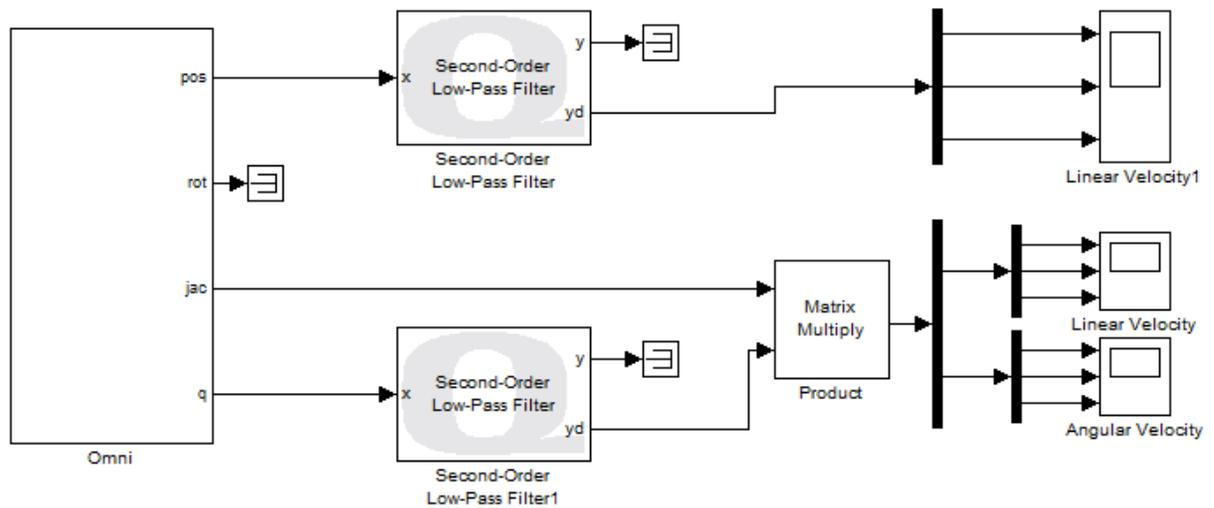

Figure 8.8: Verification of linear velocities
- We can verify the linear velocities by differentiating the output pos of the Omni block. Given that this output is the position of the end-effector, its derivative will give us the linear velocity of the end-effector. Modify your model to resemble Figure 8.8.